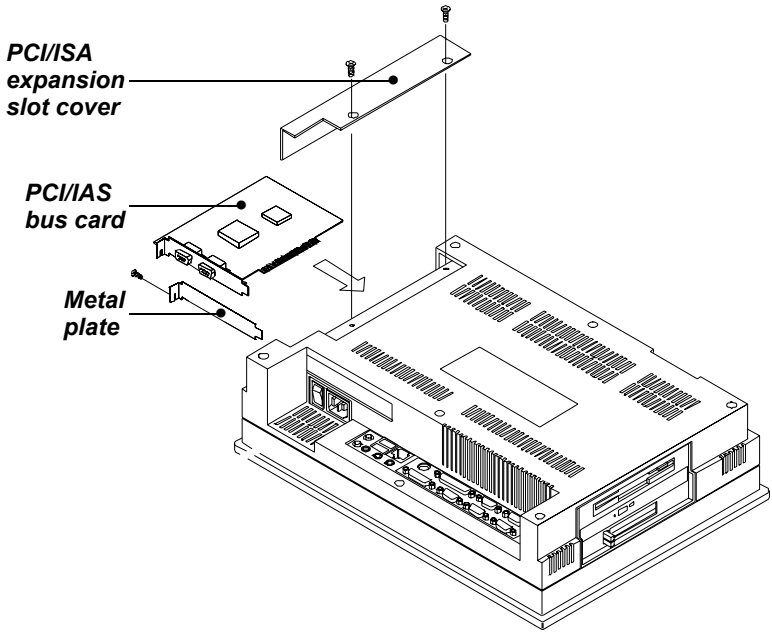

Figure 3.6: PCI/ISA bus expansion
4. Insert the PCI or ISA bus card into the PCI/ISA slot of the riser card. (See Fig. 3-6 overleaf.)